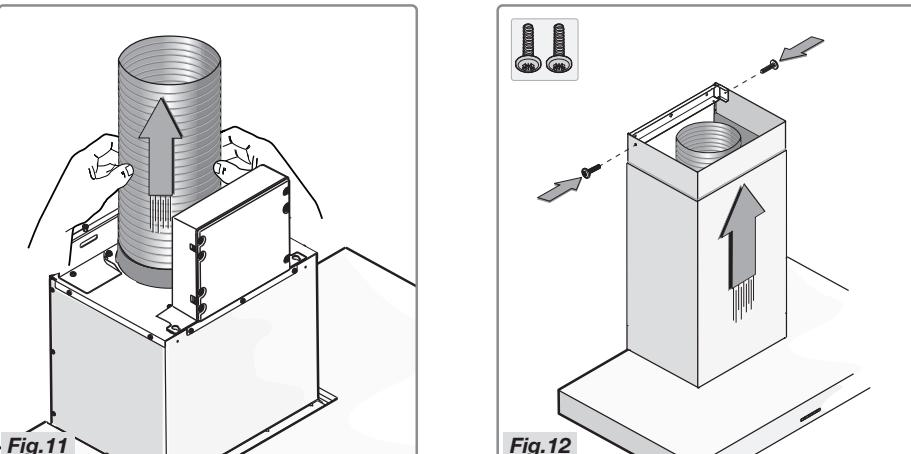

Fig.11
- Connect the flange to the air outlet using a tube (Fig.11).